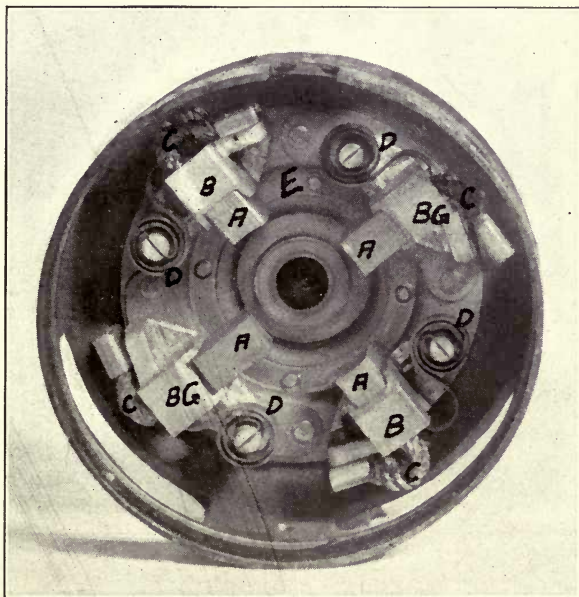

FIGURE 13.
*A is the motor terminal. B is the insulation around the motor terminal. C is lower end of motor terminal. D are the joints between the field coils. E are leads connecting field coils to brushes shown at BG in Figure 13. F are the field pole pieces.*
**BRUSHES.** The motor has four copper composition brushes arranged as shown in Figure 13. Each brush has two heavy bare copper pigtails, the free ends of which are soldered into flat copper terminals that are fastened to the brush holder by a round head machine screw. The
The brush holders are made of aluminum, and are riveted to the brush ring. The two brushes shown at BG in Figure 13 are insulated from the brush ring by fiber strips. These brushes are connected to one end of the field coils. The brushes shown at B in Figure 13 are riveted directly to the metal of the brush ring, and are therefore the "grounded" brushes. They have no wires except the pigtails from the brushes attached to them.